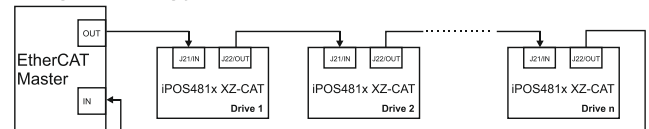

Figure 36. EtherCAT network ring topology
- Ring, when the J7 / OUT port of the last drive in the chain is connected back to the master controller, on the 2nd port of the master. This topology consists of the linear topology described above, plus an extra connection between the master, which has two RJ45 ports, to J7 / OUT of the last drive. See **Figure 36. EtherCAT network ring topology** for a visual representation of the ring topology.